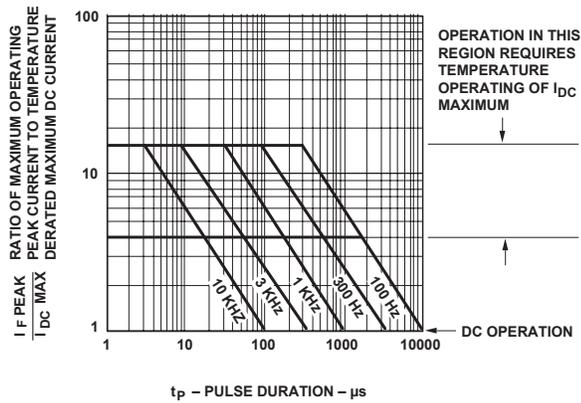

Figure 1. Maximum Allowed Peak Current vs. Pulse Duration – AlGaAs Red.
- See Figure 1 to establish pulsed conditions.